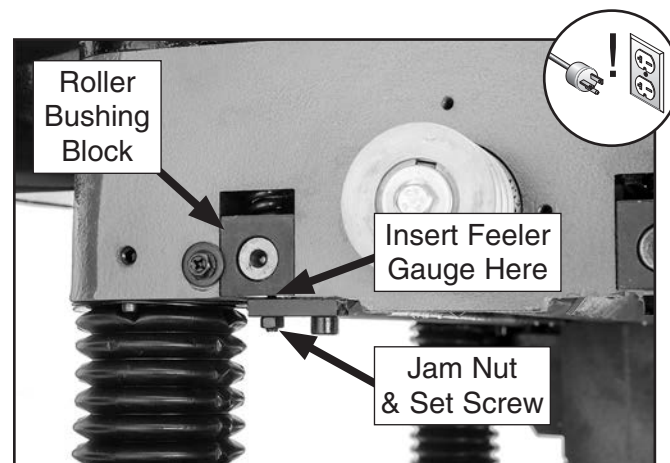

Figure 68. Feeler gauge location for adjusting infeed roller height when using wood blocks.
10. Loosen jam nuts and set screws on each side of infeed roller (see **Figure 68**).
11. Using a feeler gauge, adjust set screw so it is 0.020" from roller bushing block (see **Figure 68**), then tighten jam nut. Repeat on other side of infeed roller.